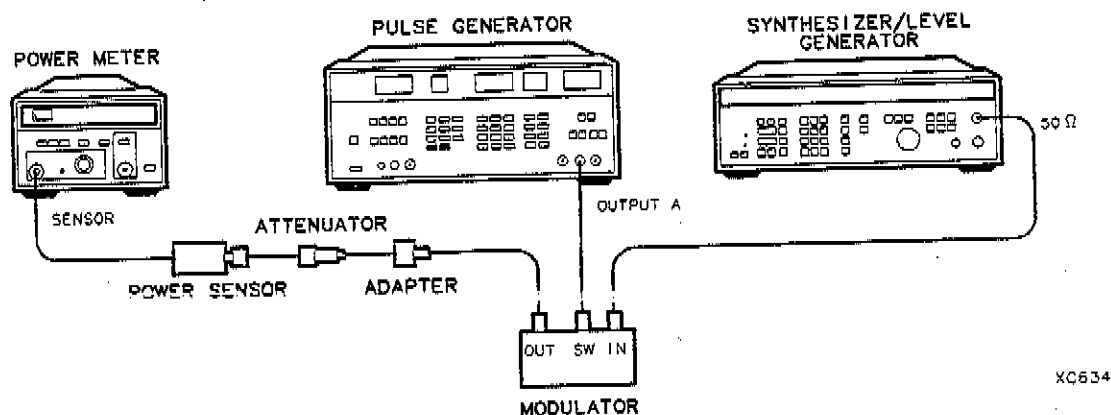

Figure 1-35. Input Amplitude Calibration Test Setup
2. Connect the equipment as shown in Figure 1-35.